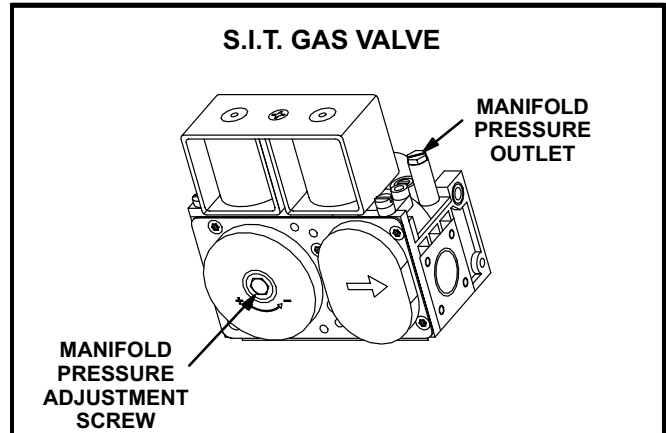

FIGURE 23
GAS VALVE OPERATION (Figure 23)
- 2 - After line pressure has been checked and adjusted, check manifold pressure. Manifold pressures are given in technical data table on page 22. See figure 23 for gas pressure adjustment screw location.